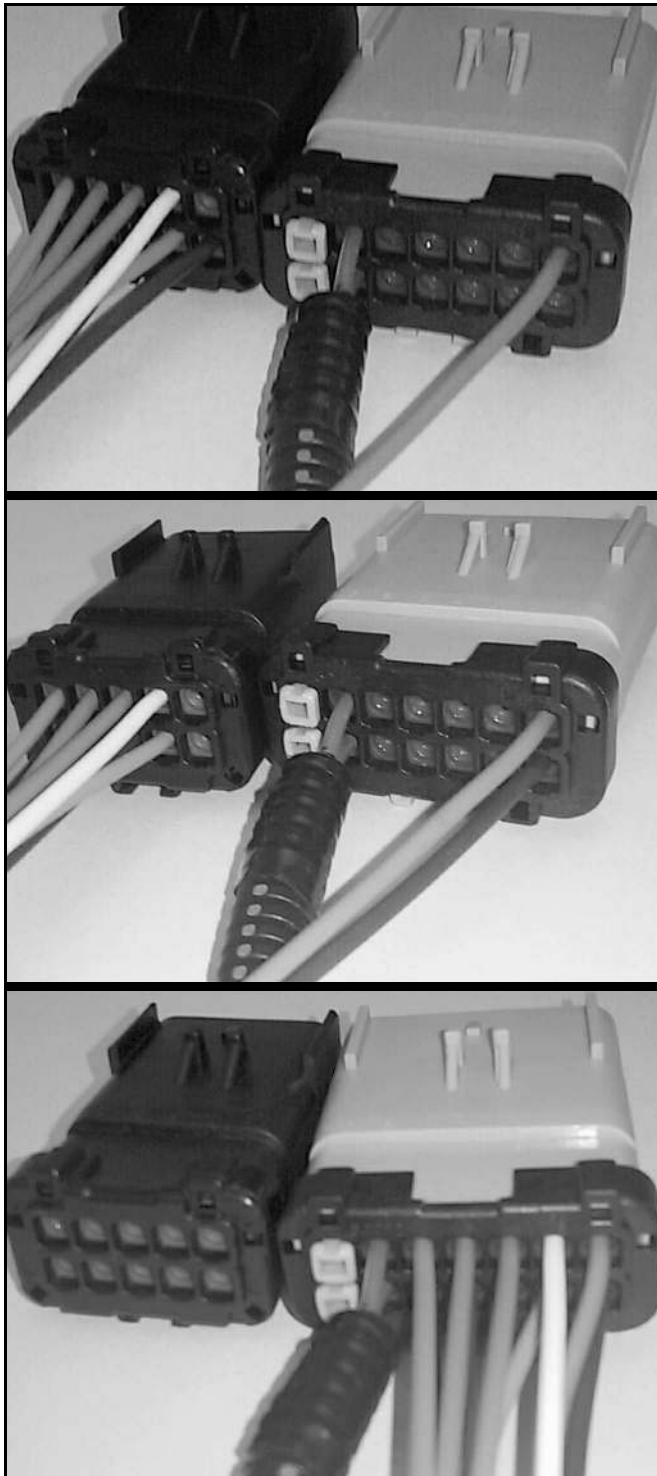

Figure 4
- Pins 1-5 from the Black connector go to pin cavities 1-5 of the Gray connector. Pins 6-10 from the Black connector go to pin cavities 8-12 of the Gray connector, etc. Pin cavity numbers are marked on the connector. (See Figure 4.)